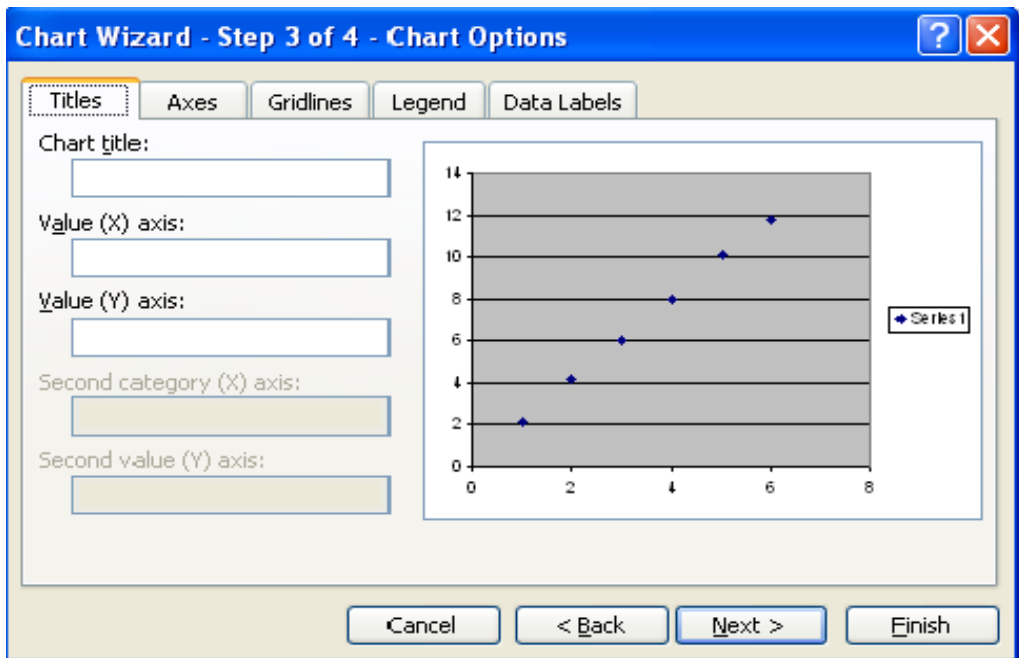

Figure 10
5. In the "Chart Options" dialog box: Enter the title of the chart and titles for the X and Y-axes. Other options for the axes, grid lines, legend, data labels, and data table can be changed by clicking on the tabs. Click Next to move to the next set of options. (**Fig. 10**).